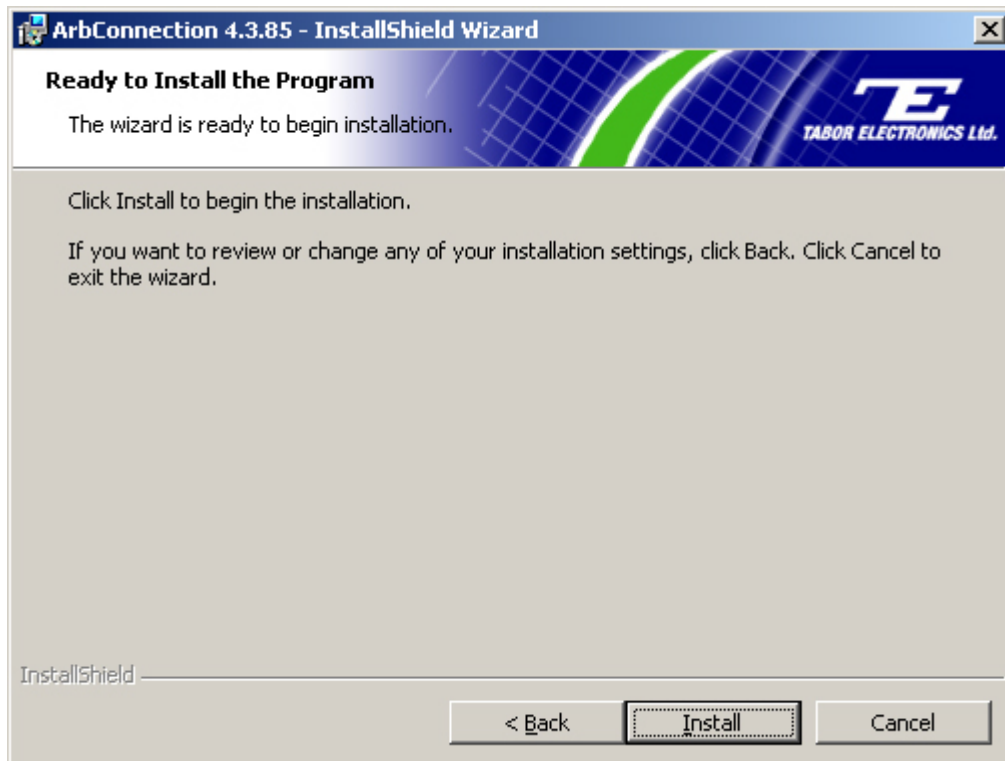
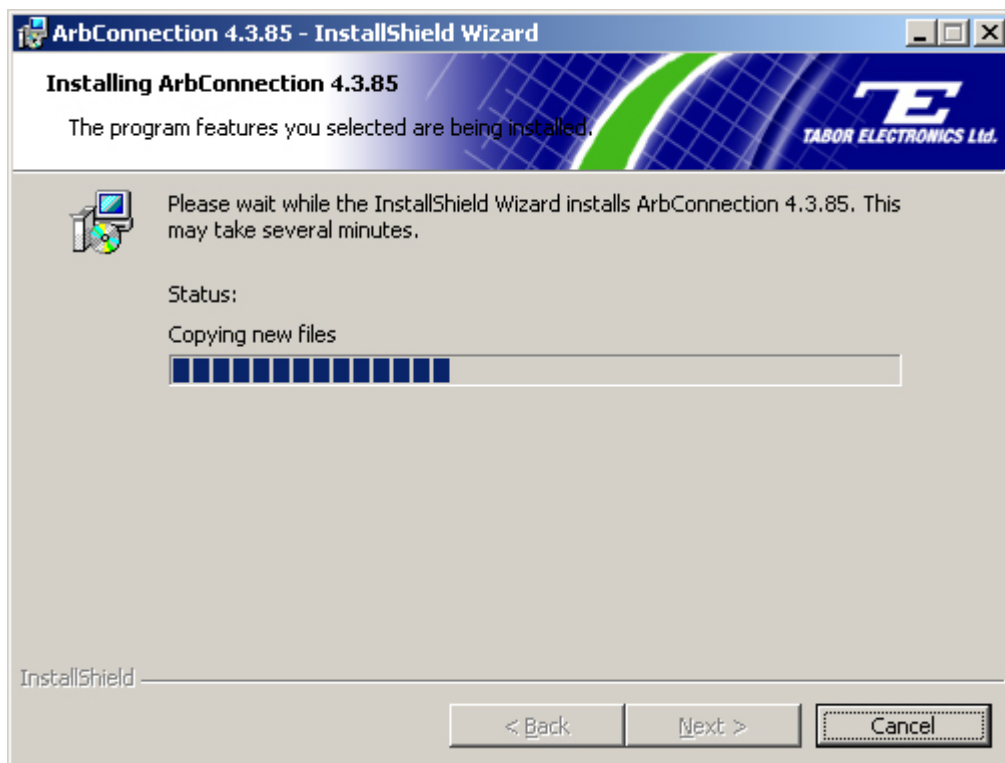

Figure 2-12: Ready to Install the Program
Figure 2-13: Installing ArbConnection
10. Click on the install button to begin the installation. (Figure 2-12) and your program will complete the installation. (Figures 2-13 and 2-14)